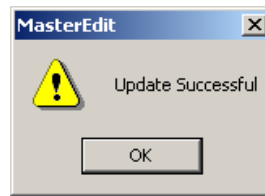

Figure A-18: MasterEdit Update Successful Message
12. When the new data is entered, click **OK**. If successful, the following message will appear (Figure A-18).